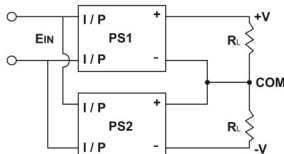

Figure 10: Positive and negative terminals connect in series
- (1) Positive and negative terminals are connected as figure 10: